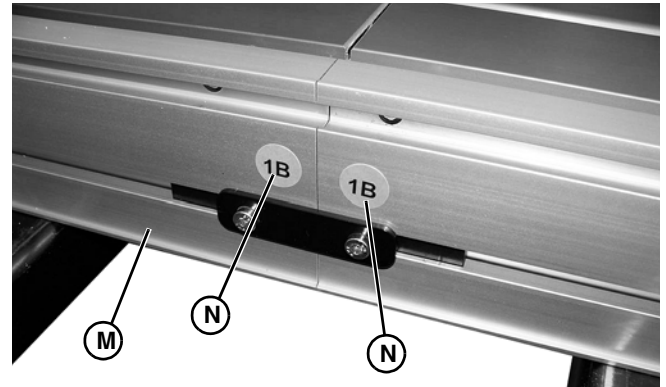

Figure 4
1. Locate and arrange conveyor sections by section labels (Figure 4, item N).